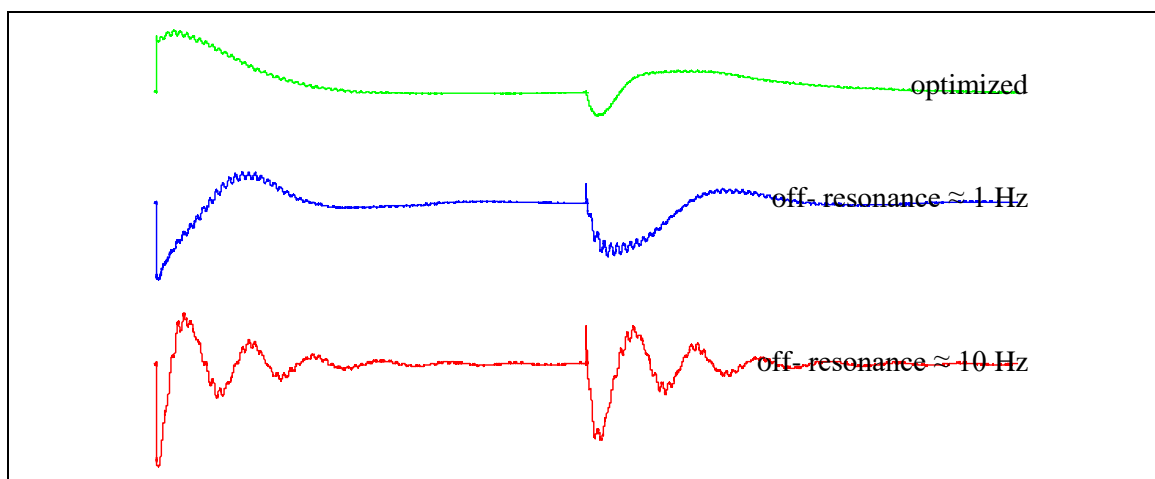

Fig. 3.12: Optimization of **O1** in **gs**-mode.
- Use the **gs**-control window to adjust **O1** until the FID decays without modulations to zero. A sinusoidal modulation indicates that **O1** is off-resonance. See Fig. 3.12 on page 45.